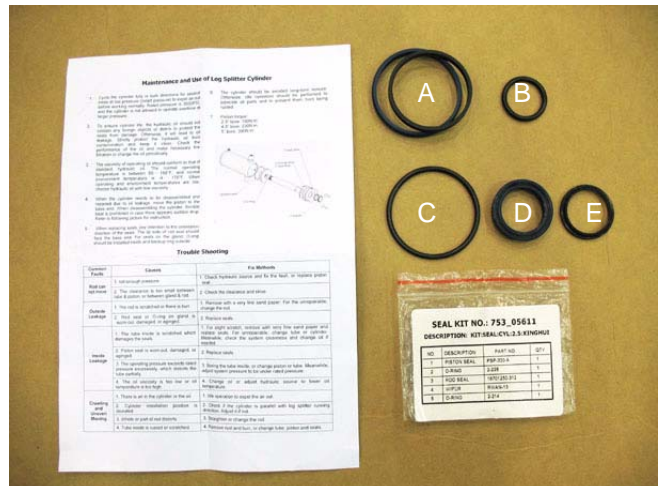

Figure 5.21
- 3.11. The cylinder rebuild kit consists of: See Figure 5.21.
- 2-piece piston ring seal (A)
- Piston-to-shaft O-ring seal (B)
- End cap outside diameter seal (C)
- End cap shaft seal (D)
- End cap shaft scraper (E)